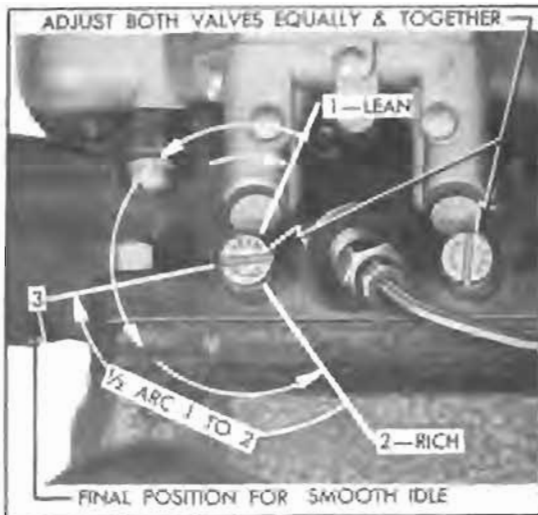

Figure 3-11—Adjustment for Smooth Idle
4. Turn both needle valves "IN" one-half the distance between the first and second positions, being careful to turn both valves an equal amount. See figure 3-11. This should give the smoothest idling point. **NOTE:** *As the needle valves are changed, the throttle stop screw also must be changed to maintain engine idling speed at 450 RPM. Use a tachometer to set engine idling speed, if available.*